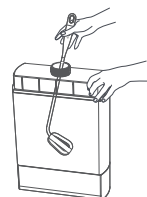

Figure 22
- 5.3 Clean the inside with a cleaning brush and rinse well (see Figure 22).